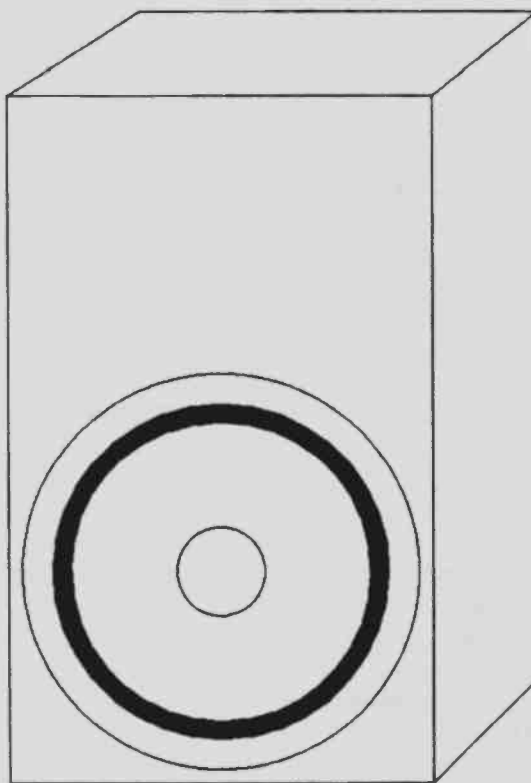

FIGURE 12-2: Closed box enclosure.
**Infinite-baffle** or **closed-box** enclosures are the simplest enclosure designs. They consist of a magnetic woofer mounted in a closed box (Fig. 12-2).